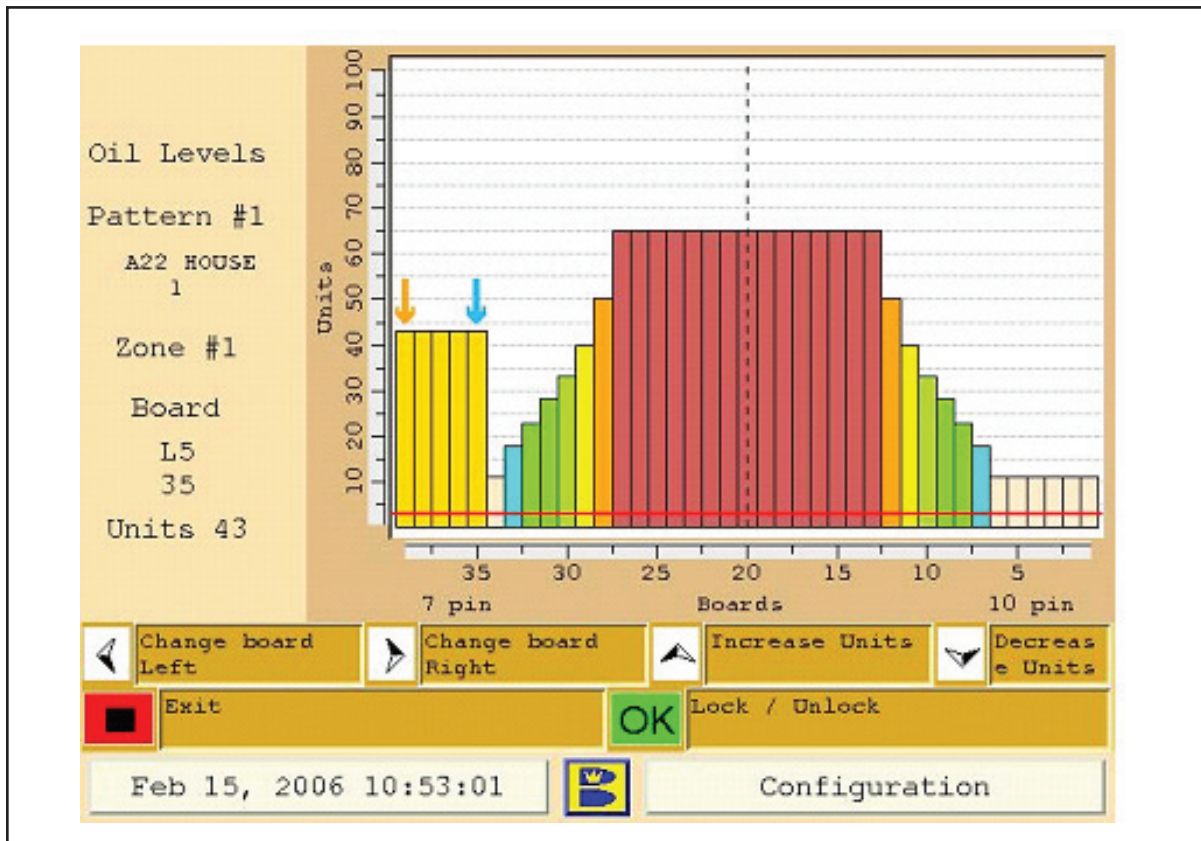

Figure 5-10. Oil Level
- Use the left/right arrows to select the board you want to adjust (numbered 1-39 from the right of the screen or L2 (left 2 board) to R2 (right 2 board)). Refer to Figure 5-10.